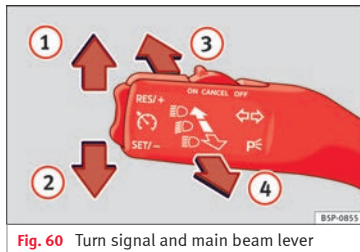

Fig. 60 Turn signal and main beam lever
- Move the lever all the way up » **Fig. 60** **1** to indicate **right**, and all the way down **2** to indicate **left**.
- If the dipped lights are on, push the lever forward » **Fig. 60** **3** to switch on the main beam headlights.
- Push the lever towards the steering wheel » **Fig. 60** **4** to switch off the main beam.